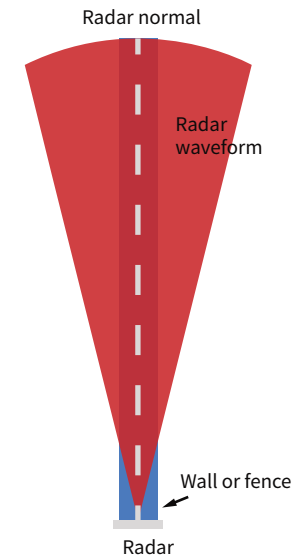

Fig.2-8
④ Scenario II: perimeter protection scenario (airport, terminal, etc.) like figure 2-8.